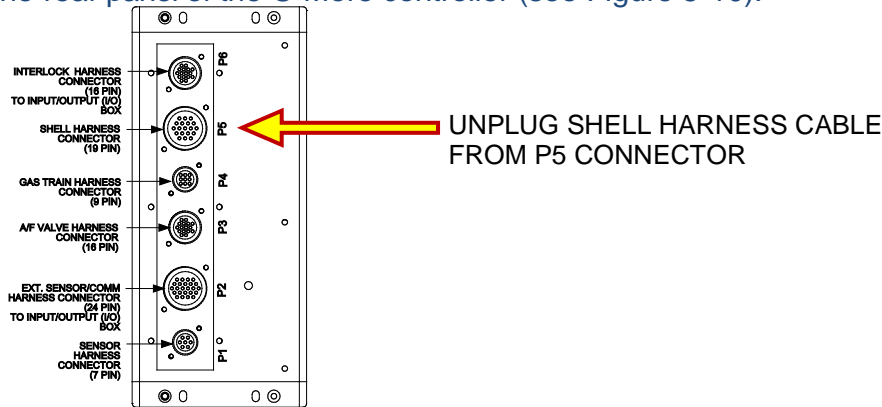

Figure 5-10: Removing Shell Harness Cable from P5 Conn. on C-More Rear Panel
2. Remove the Shell Harness Cable (male) connector from the P-5 (female) connector on the rear panel of the C-More controller (see Figure 5-10).